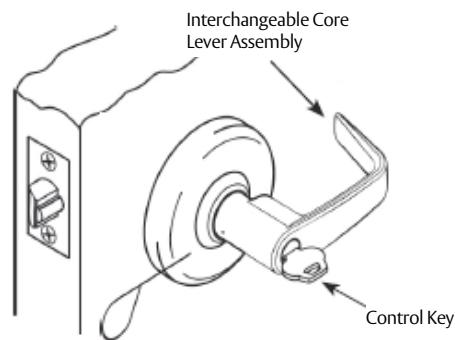

Figure 8 Locking Core
- Insert core into lever and return key to its original horizontal position locking core in place. See Figure 8.